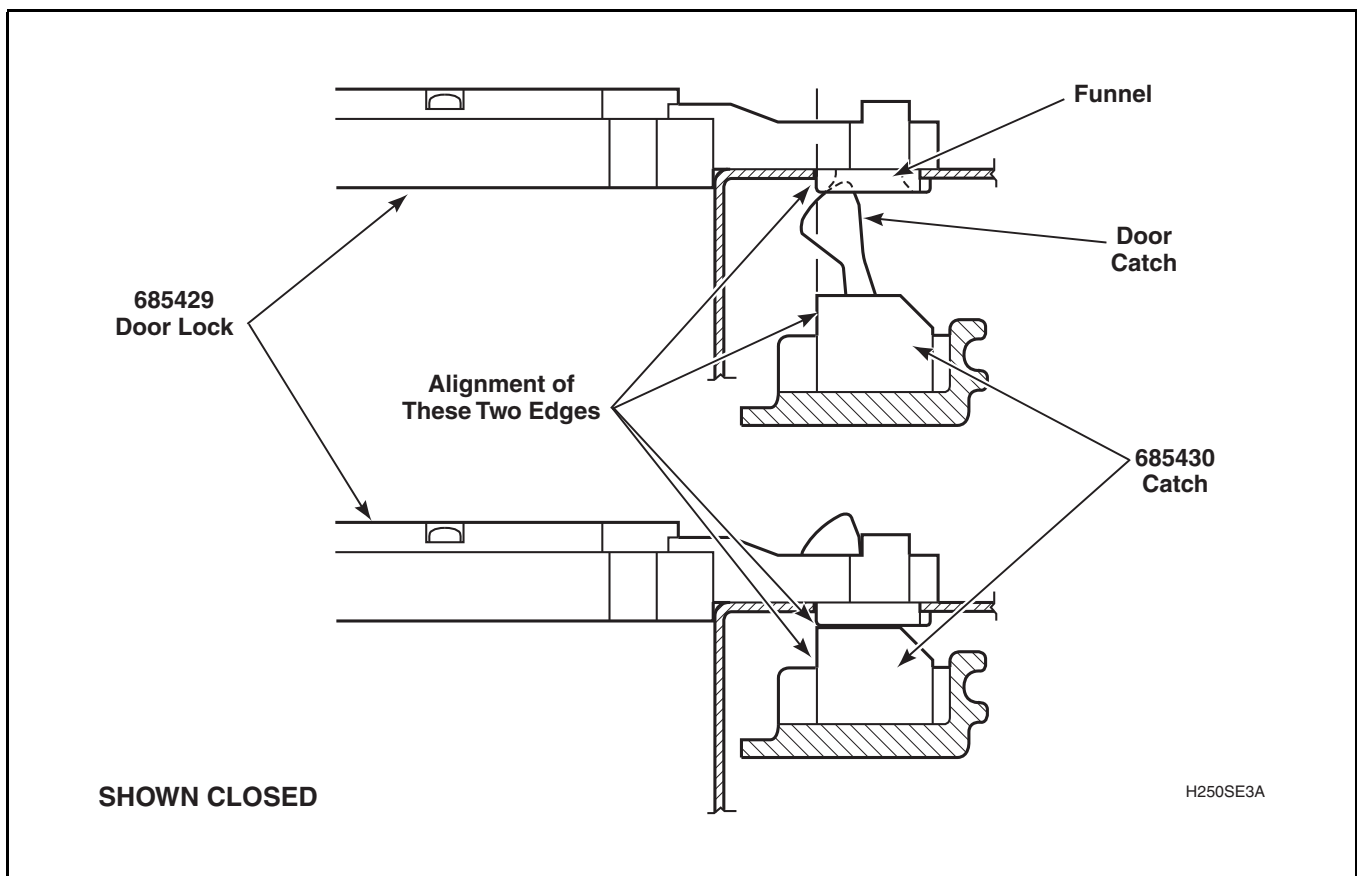

Figure 61
- Adjust door catch so the outside edge is aligned with the edge of the latch. Refer to *Figure 61*.
- Visually check that the door catch properly engages the funnel of the door latch/switch assembly. Refer to *Figure 61*.